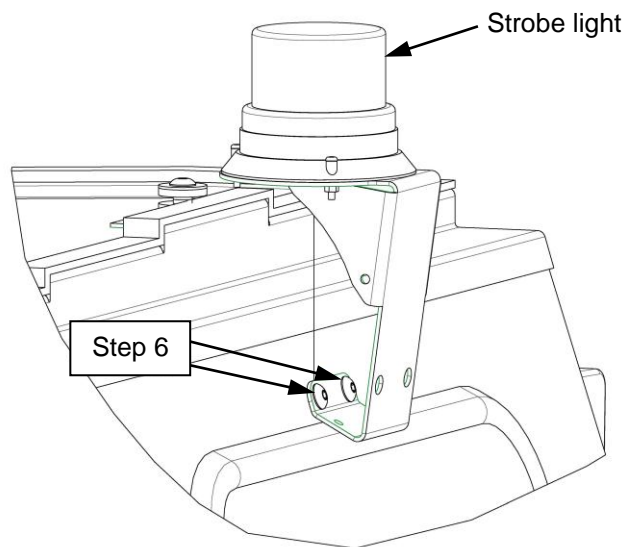

Figure 3
4. Remove the (3) rear roof bolts. Insert a block to raise the back of the roof, 2 to 3".
5. Locate and remove the (2) 3/8" hole plugs located above the upper rear window (**Figure 3**).
6. Secure mount bracket using (2) 5/16" x 3/4" long button head bolts (Item 6) and (2) 5/16" flange nuts (Item 7) (**Figure 3**).